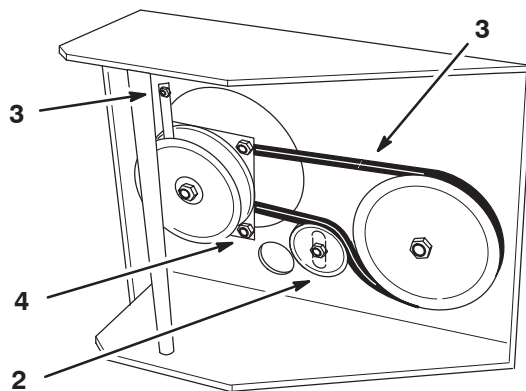

Figure 42
- Remove the left front engine mounting bolt which secures the clutch retainer to the frame (Fig. 42).
- Unhook the retainer from the clutch and remove the retainer (Fig. 42).
- Loosen the idler mounting bolt enough to move the idler pulley and remove the traction belt from the drive pulley and clutch (Fig. 42).
- Install the new belt around the clutch and drive pulley (Fig. 42).
9. Hook the clutch retainer into the clutch and secure it to frame with the engine mounting bolt (Fig. 42).